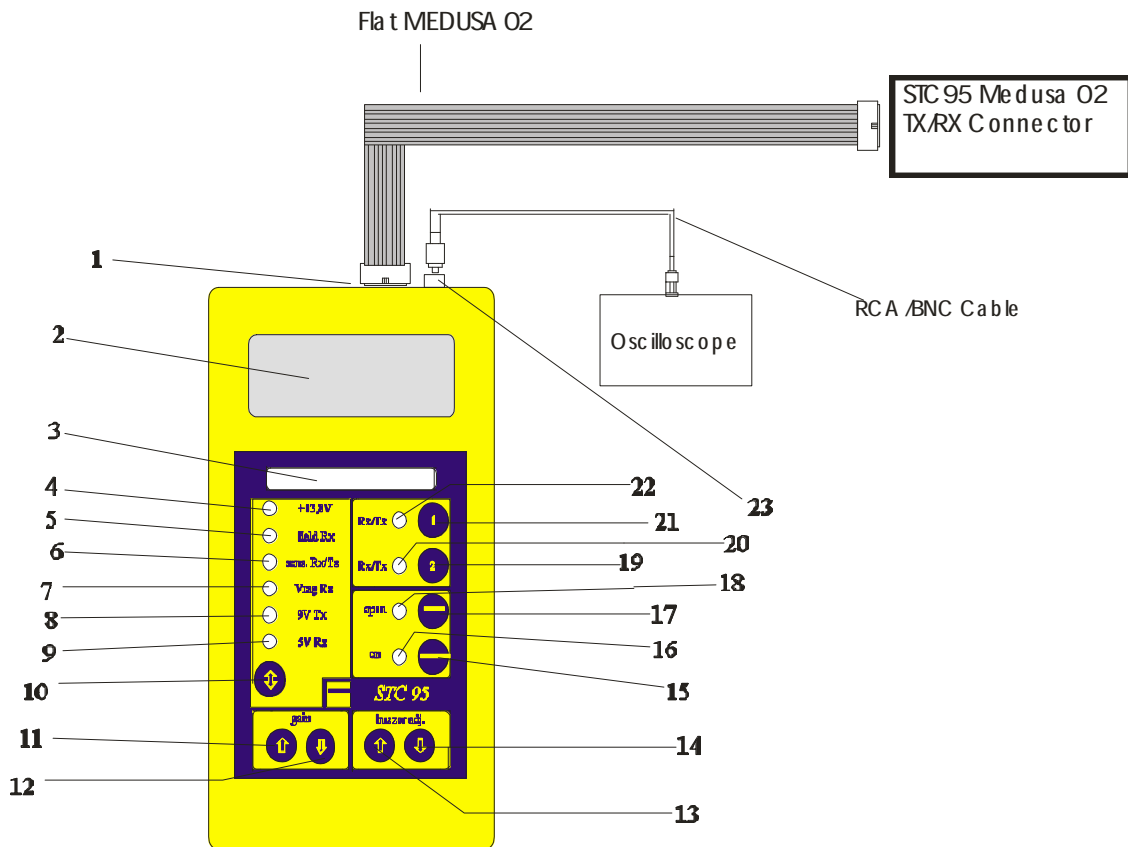

Fig 1
(The designation of the LEDs and keys is shown in fig. 1)
3.1.3 – Press key “ \updownarrow ” (10) to select the test (fig.1) till the power supply voltage test indicating LED “**+13,8V**” (4) lights up. The voltage read on the display (2) must be 13.8 Vdc \pm 10%.
3.2.18 - The STC 95 is provided with an RCA output (fig. 1) which, through the wire supplied, allows to check the wave form of the received signal.